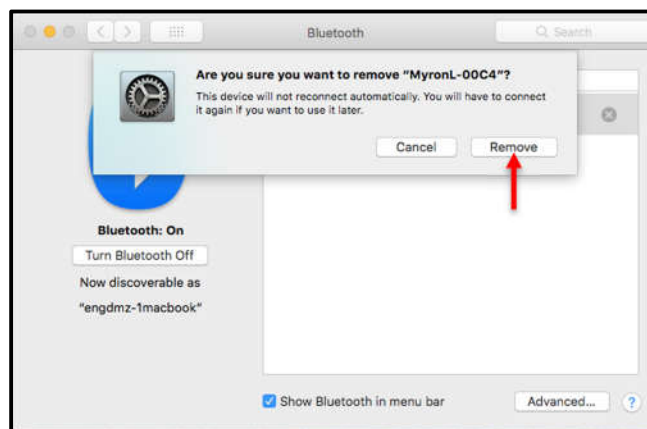

Figure 22
- 4) The macOS will ask you if you are sure, click on "**Remove**" (Figure 22).